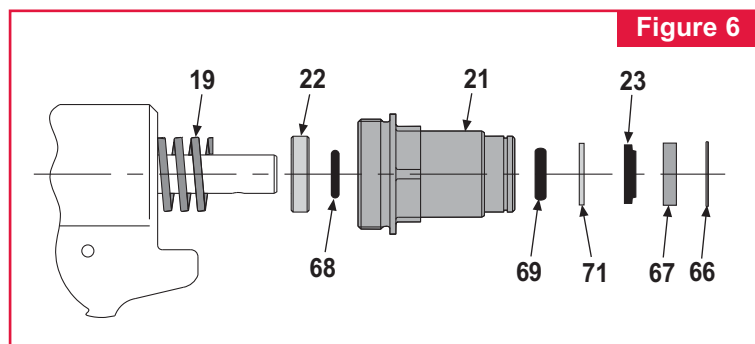

Figure 6
4. Remove Adapter (64) and Tube/Slide Assy (70).
5. Remove End Cap (21) and Spring (19) (Fig. 6).
6. Remove Spacer (22) and O-Ring (68) from spring side of end cap.
7. From bottle side of end cap, remove Retaining Ring (66), Wiper Housing (67), Wiper Seal (23), Washer (71) and O-Ring (69).
PINTAIL BOTTLE/VACUUM 2025V & 2025LV: (Refer to Figures 6 & 15)
1. Assemble Adapter and Tube/Side Assembly (70) and new O-Rings (65).
2. From bottle side of End Cap (21) install O-Ring (69), Washer (71), Wiper Seal (23), Wiper Housing (67) and Retaining Ring (66) as shown in (Fig. 6).
3. From tool side of end cap install O-Ring (68), Spacer (22) and Spring (19). (as shown in Fig. 6) Screw entire assembly into head and tighten.